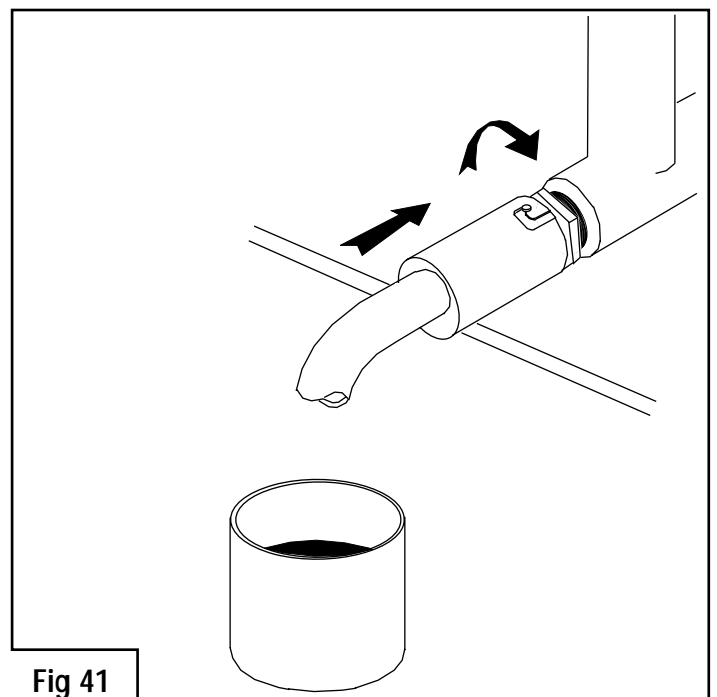

Fig 41
5. When the sump is empty, press in the adaptor and turn clockwise to lock. Remove hose and store for next use. Replace Yellow Dust Cap (fig 41).